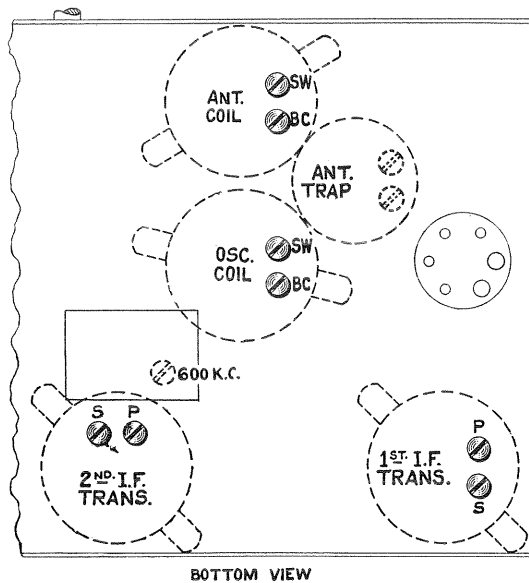

Figure 4—Location of Line-Up Capacitors
To properly align this receiver, it is essential that a modulated R. F. oscillator of suitable frequency range such as Stock No. 9050, an output indicator, Stock No. 4317, and an alignment tool, Stock No. 4160, be available. Figure 4 shows the location of the various line-up capacitors.
The I. F. amplifier comprises two stages which have three transformers. The third transformer is untuned so that only a total of four tuned circuits is used. Refer to Figure 4 and proceed as follows:
Adjust the two trimmers under the two R. F. coils, designated as BC in Figure 4, until a maximum deflection is obtained in the output meter. Then shift the Test Oscillator frequency to 600 K. C. The trimmer capacitor, accessible from the top of the chassis, should now be adjusted for maximum output while rocking the main tuning capacitor back and forth through the signal. Then repeat the 1720 K. C. adjustment.
Figure 4 for maximum output, beginning with the oscillator trimmer. It will be noted that the oscillator and first detector trimmers will have two positions at which the signal will give maximum output. The position which uses the lower trimmer capacitance, obtained by turning the screw counter-clockwise, is the proper adjustment for the oscillator, while the position that uses a higher capacitance is correct for the detector. The detector trimmer *must* be adjusted for maximum output while rocking the main tuning capacitor back and forth through the signal. *Both of these adjustments must be made as indicated.*
- (b) Adjust either or both of the trap circuit trimmers, accessible from the top of the chassis, Figure 4, until a *minimum* output from the receiver is obtained. The point of minimum output is the proper adjustment.